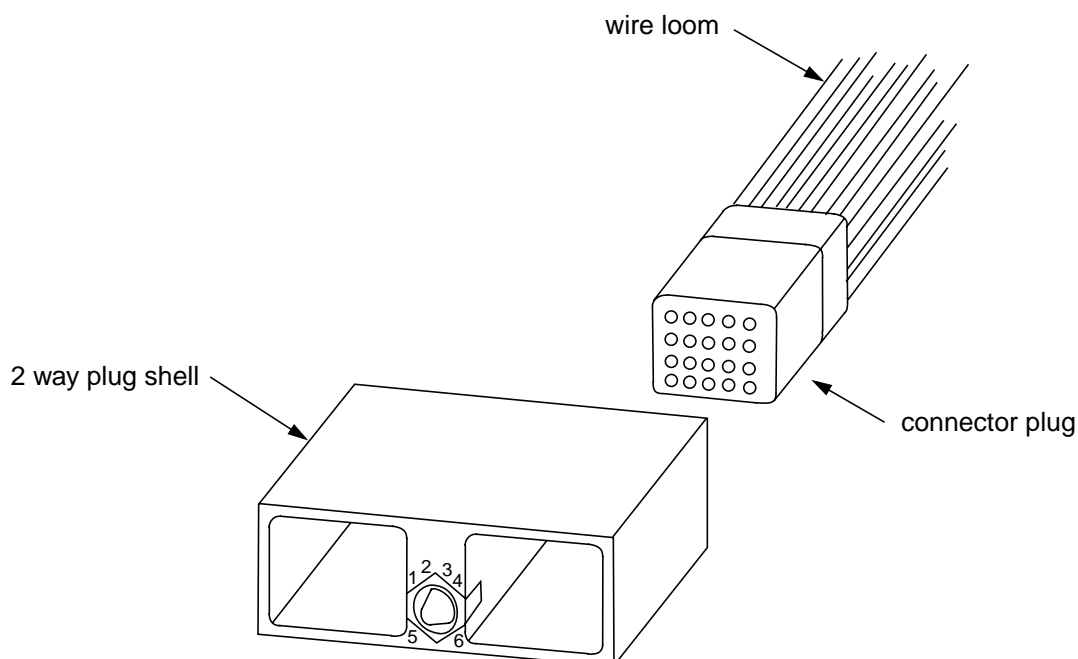

Figure 10 - Insertion of DMC-MD Connector Plug
- Step 2. Insert the connector plug into the 2 way plug shell (see Figure 10). When properly oriented, the connector plug will snap into position within the plug shell. If necessary, remove the connector plug from the plug shell using an extraction tool (see Figure 11).